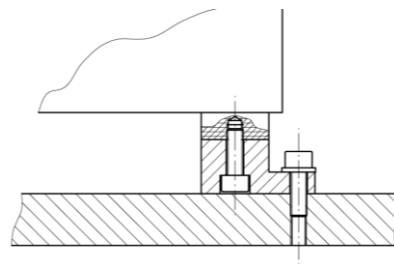

Figure 4
- WV with base plate and mounting foot (see Figure 4)